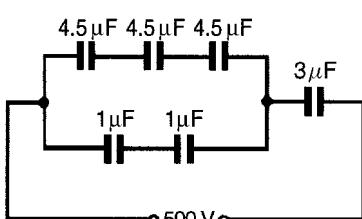

Figure 6.11
- 6 For the arrangement shown in Fig. 6.11 find (a) the equivalent circuit capacitance and (b) the voltage across a $4.5\mu F$ capacitor.